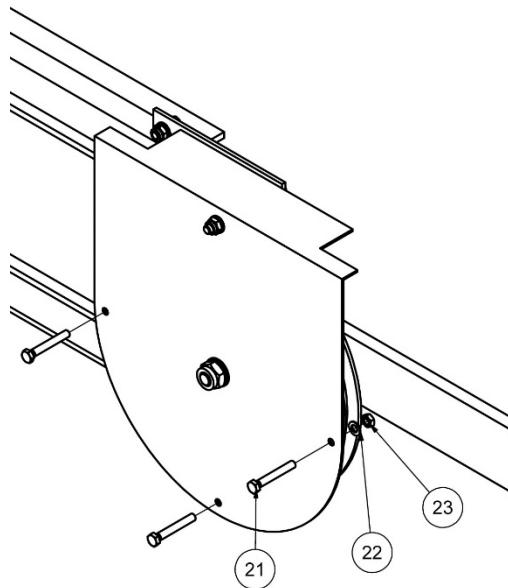

Figure 7
The rope out protection consists of three screws DIN 933 M5x35 (21) Insert them in the articulated cover. They will be fixed with three washers DIN 125 M5 (22) and three nuts DIN 934 M5 (23). *Figure 7.*